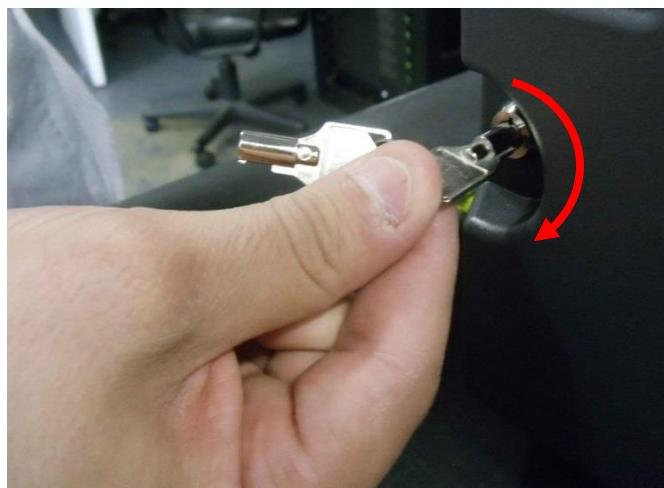

Figure 9: Projector Unlock
- Using the key for the projector screen, turn the key in the lock to the right so that it is unlocked (Figure 9).